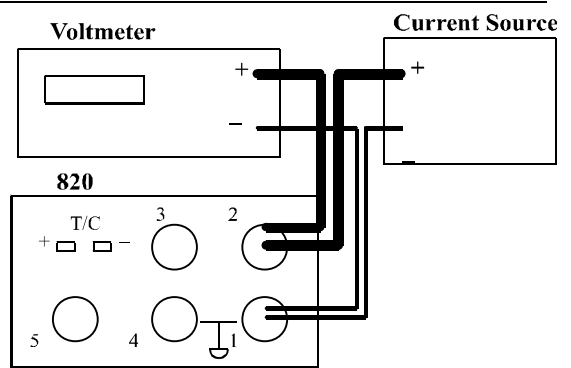

FIGURE 6
4. Hi Calibration: Switch the toggle switch to the middle position. Connect a Current Source (Set to 1mA) and a Voltage Meter to terminals 1 and 2 of the 820 (See figure 6). Dial the 820 until the meter reads 0.400V and press *STORE*; make sure you hear the beep, then press *SOURCE/READ*.